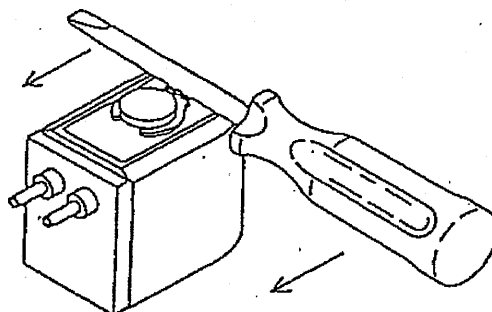

Fig. 15
- (1) To re-assembly, follow the instructions for "5.1 disassembly" in reverse order, and make sure not to forget any of the parts. Refer to Fig. 15 for details on assembling the clip ⑭ (excluding coil option symbol 7A).
- (2) Tighten the hexagon head bolts ⑥ diagonally so that they are uniform. Tighten the hexagon head bolts with a torque of 13 to 18N.m.
- (3) To prevent the outer spring ⑨ (⑧ for coil option symbol 7A) from biting, temporarily tighten the core assembly ⑩ until it contacts the O-ring ⑦, and then tighten with a torque of 16 to 24N.m.
- (4) Apply the fluid pressure, and confirm that the fluid does not leak out.
- (5) Turn the power ON so that the fluid circuit can be used.